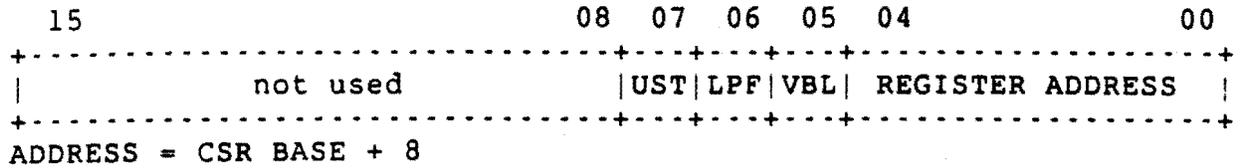

Figure 2-4: CRTC Address Register Pointer Format
2.1.4.1 CRTC Address Register Pointer - This register points to the one of 17 internal CRTC registers (Table 2-6), that is to receive the data contained in the CRTC Data Register (described below). It also contains three status bits (Figure 2-4 and Table 2-5).